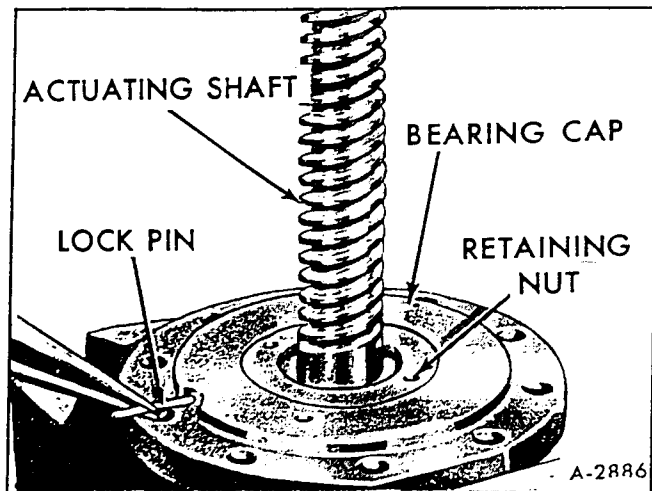

Figure 16 – Removing Lock Pin from Bearing Retainer Nut
11. Remove lock pin from bearing retaining nut (fig. 16).